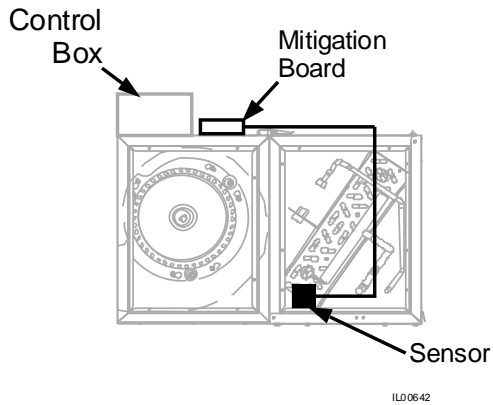
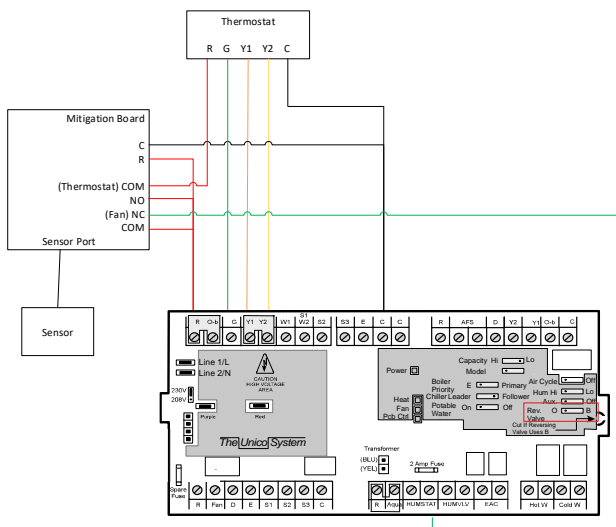

Figure 37. Mitigation to Sensor Wiring
Figure 38. Leak Detection System Wiring Diagram
5. Next, the mitigation board will need to be wired to a thermostat and Unico Control Board. Figure 38 shows the standard wiring diagram for the RDS. Figure 37 shows an example of the Sensor Cable routing.